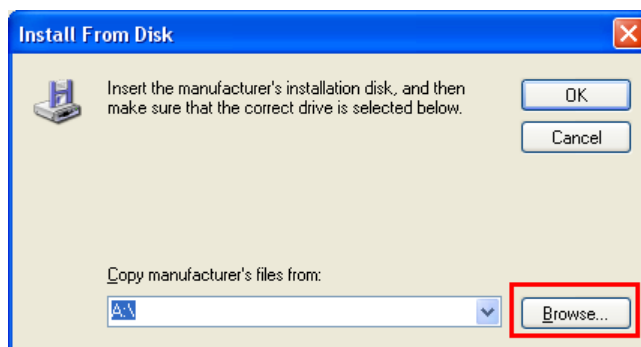

Fig. 4-4 Find driver location—2
- 4) Click “Have Disk...”, a new window to appear, as shown in Fig. 4-4.